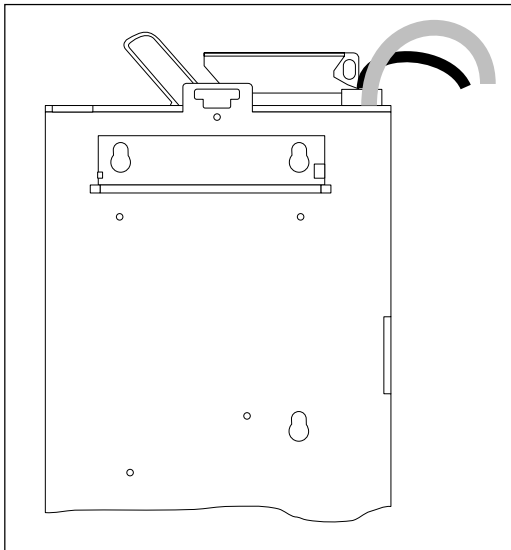

Fig. 7: Mounting the changer
- Mount the changer (3 holes) (fig. 7).